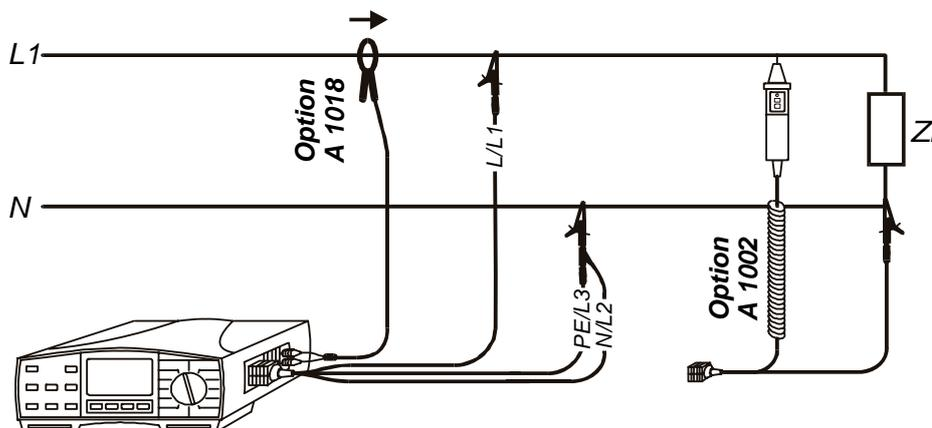

Fig. 90. Connection of optional Low-range Current Clamp (Order No. A 1018) in combination with Universal Test Cable or opt. Tip Commander (Order No. A 1002)
- ◆ Connect 1A/1mA test clamp and Universal test cable to Eurotest 61557; see the figure 90.